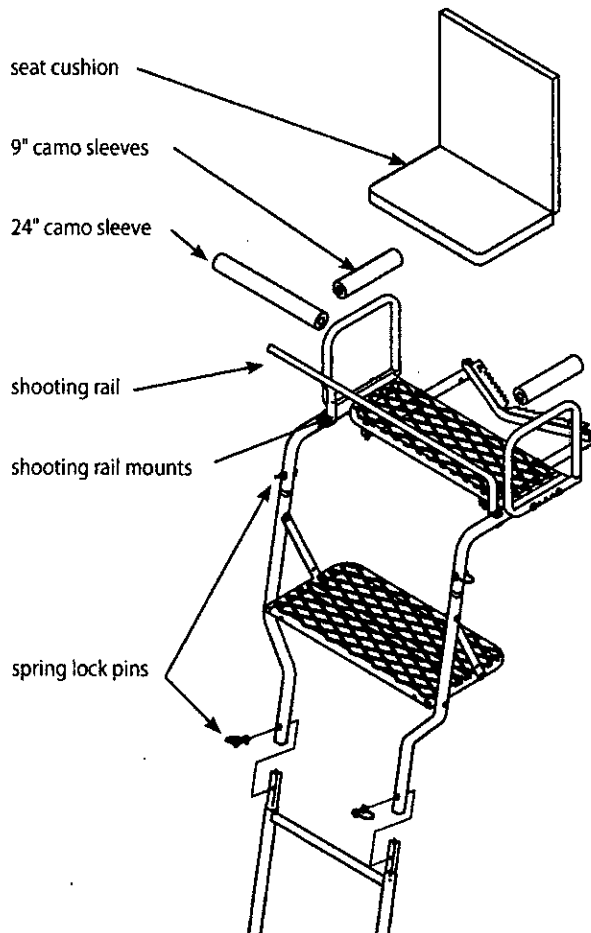

Figure 4
7. a. Attach the shooting rail (112ML21) by setting rail down over rail studs. **SEE FIGURE 4. Lubrication is recommended to prevent binding and noise.**
b. Attach the (2) provided 9" and (1) 24" camo foam pads to the armrests and shooting rail by wrapping around tubing and attaching Velcro together.
10. With all sections assembled together on ground, secure all sections together using (8) provided spring lock pins. Handle of spring lock pin must be put to the outside of ladder side rails. **SEE FIGURE 4.**